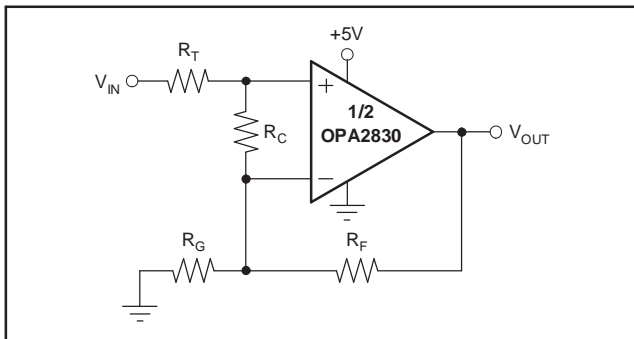

Figure 77. Compensated Noninverting Amplifier
Figure 77 shows a noninverting amplifier that reduces peaking at low gains. The resistor  $R_C$  compensates the OPA2830 to have higher Noise Gain (NG), which reduces the AC response peaking (typically 4dB at  $G = +1$  without  $R_C$ ) without changing the DC gain.  $V_{IN}$  needs to be a low impedance source, such as an op amp.
Frequency response in a gain of +2 may be modified to achieve exceptional flatness simply by increasing the noise gain to 3. One way to do this, without affecting the +2 signal gain, is to add a 2.55k $\Omega$  resistor across the two inputs, as shown in Figure 77. A similar technique may be used to reduce peaking in unity-gain (voltage follower) applications. For example, by using a 750 $\Omega$  feedback resistor along with a 750 $\Omega$  resistor across the two op amp inputs, the voltage follower response will be similar to the gain of +2 response of Figure 71. Further reducing the value of the resistor across the op amp inputs will further dampen the frequency response due to increased noise gain. The OPA2830 exhibits minimal bandwidth reduction going to single-supply (+5V) operation as compared with  $\pm 5V$ . This minimal reduction is because the internal bias control circuitry retains nearly constant quiescent current as the total supply voltage between the supply pins is changed.
The criterion for setting this  $R_S$  resistor is a maximum bandwidth, flat frequency response at the load. For a gain of +2, the frequency response at the output pin is already slightly peaked without the capacitive load, requiring relatively high values of  $R_S$  to flatten the response at the load. Increasing the noise gain will also reduce the peaking (see Figure 77).